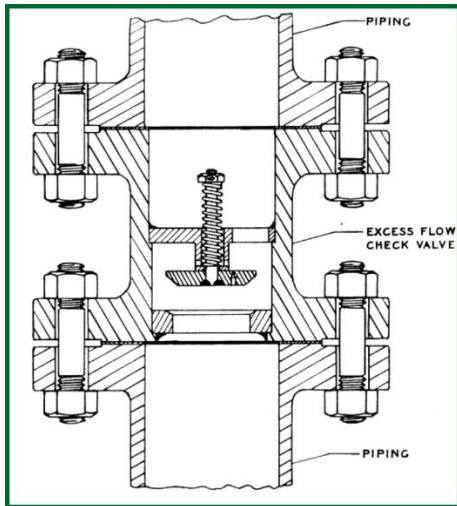

Figure 1: Installation Schematic
8. Ensure gaskets are properly positioned on each end of valve before proceeding (see Figure 1).